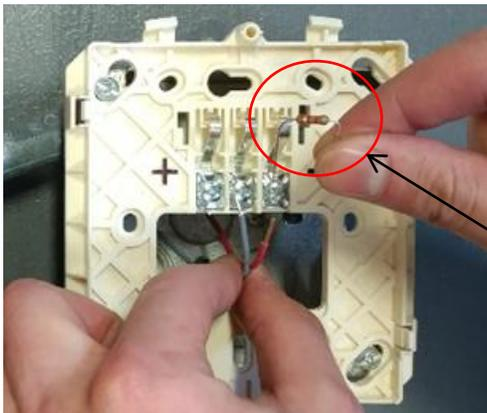

Figure 4
5. See **Figure 4**. Disconnect RED and GRAY wires and remove **end-of-line resistor** from base-plate. **IMPORTANT: DO NOT DISCARD END-OF-LINE RESISTOR.**